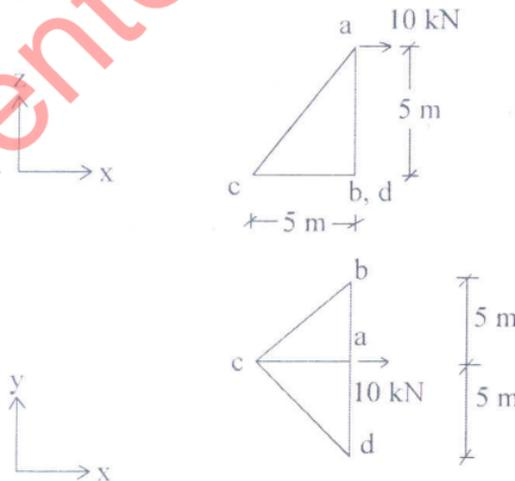

Fig. 1
- Analyse the space frame shown in Fig. 1, using Tension coefficient method.